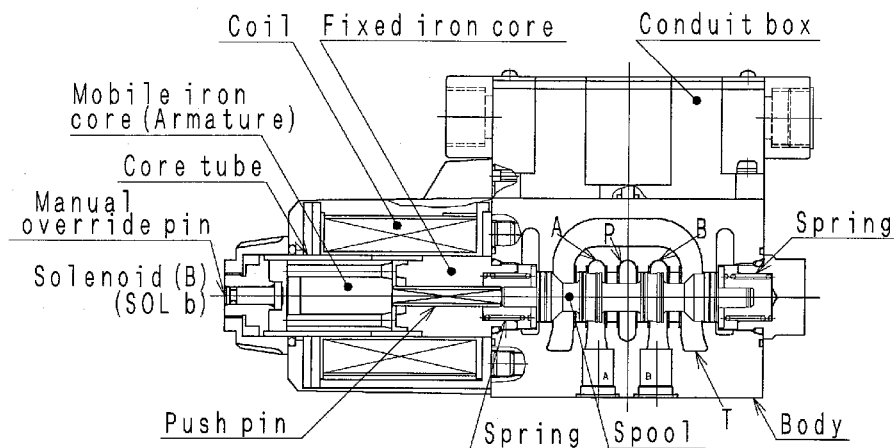

FIGURE 2 Structure of DG4V-5-*A
Figure 2 shows the structure of the spring offset A type (DG4V-5-*A) solenoid operated directional control valve.
- (1) When the solenoid of this directional control valve type is deenergized, the spool is offset in the fixed position by spring force. In the condition of FIGURE 2, it is P→A, B→T (in case of the 2A spool).
- (2) When solenoid (B) is energized, the armature is drawn to the fixed iron core. The movement pushes the spool while compressing a spring through the push pin switching the circuit. The circuit condition when switched becomes P→B, A→T. (In case of the 2A spool)
- (3) When solenoid (B) is deenergized, the spool returns to the condition of the offset (FIGURE 2).